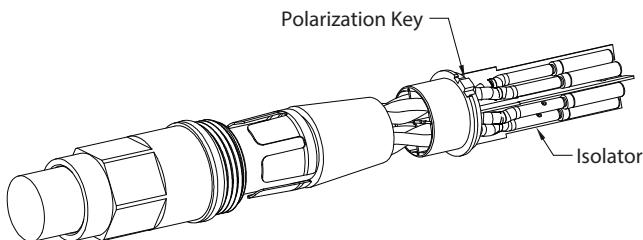

FIGURE 3
B. Insert each pair of wires into the appropriate quadrant on the isolator according to figure 3 for socket modules, and figure 4 for pin modules.
- Snap each contact into the appropriate position on the inner insulator. Refer to figure 3 for sockets and figure 4 for pins.